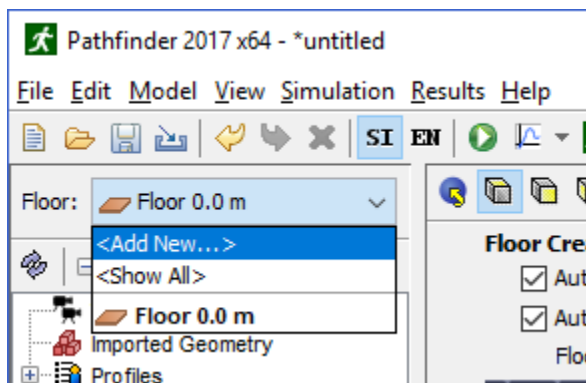

Figure 16. Adding a new floor
1. Click on the floor drop-down box above the Navigation View, and select **<Add New>** as shown in Figure 16. A dialog will open asking for the floor location.
To change the active floor, click the floor drop-down box as shown in Figure 16, and select the desired floor. This will make that floor active and all other floors non-active.
To show all floors click the floor drop-down box as shown in Figure 16, and click <Show All>.